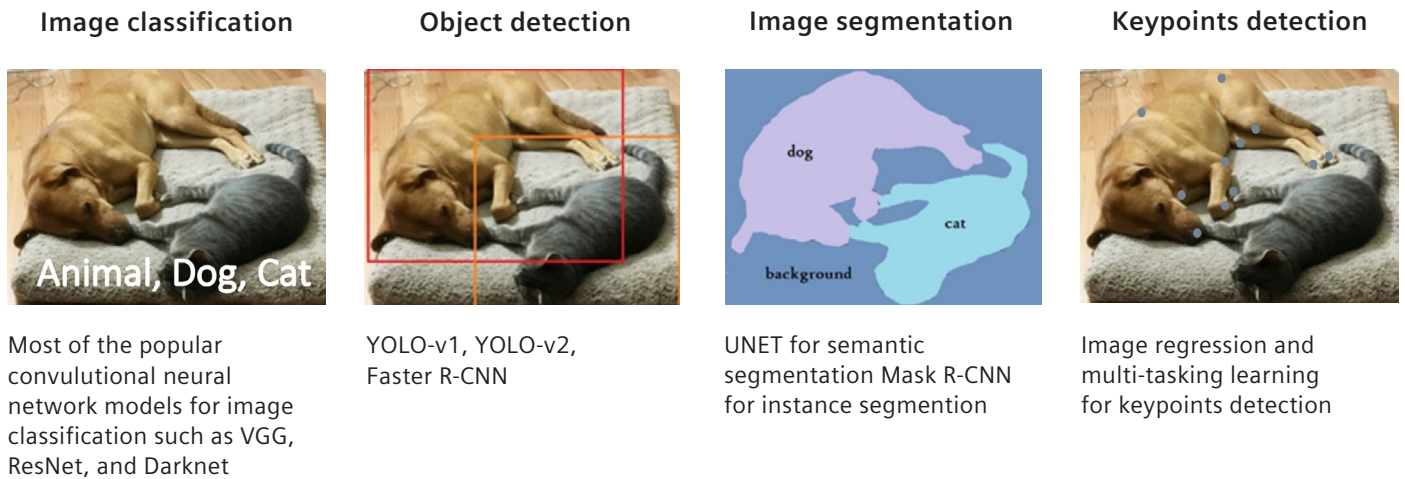

Figure 1: Basic tasks of computer vision⁴
- **Image classification** refers to the task of labeling an image as belonging to one of several predefined categories, based on the main content in the image. The image in Figure 1 could be classified into categories such as animal, dog, or cat — this is typically how image classification works.
- **Semantic segmentation** classifies each pixel of an image into one of the predefined categories, creating a mask image that shows the exact boundaries of each object. The third image in Figure 1 has three semantic categories: dog, cat, and background. In semantic segmentation, each pixel is assigned to one of these three categories, identifying the exact boundaries of the dog and the cat. In addition, instance segmentation differentiates pixels that belong to different instances of the same object type.
- **Key points detection** involves detecting multiple interest points in an image simultaneously, such as facial landmark detection. In Figure 1, the eyes, ears, and noses of the dog and cat are detected.